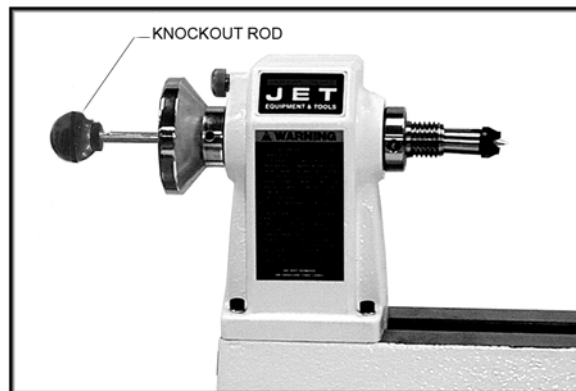

Figure 7
**Knockout Rod** ( Figure 7) - slides into the headstock to tap the spur center free. Stored in the tool caddy shown in (Figure 1a). NOTE: Always hold the spur center before tapping it out with knockout rod with your other hand to prevent it from falling and damaging the tip.